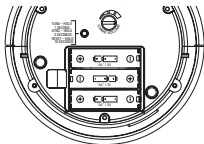

Figure 4
- Install 6 alkaline “AA” batteries (not included) into the chime. Make sure batteries are installed according to the diagram inside the chime (see Figure 4).
- Press and hold the “SYNC” button on the bottom of the chime until the chime sounds a “Beep-Beep” (see Figure 4).
- Press the push button (not included) within 30 seconds (see Figure 4). The chime will sound a “Beep-Beep” tone to indicate the push button is synced.